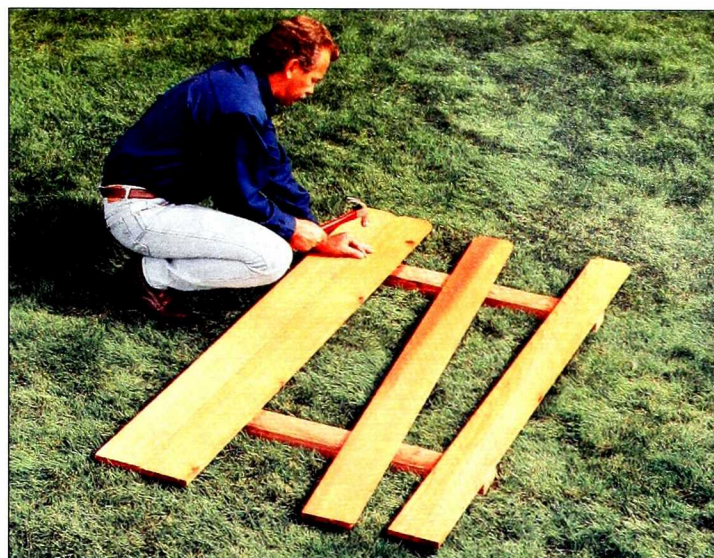

Figure 14: Assemble the gate on the ground, using only one nail at each end of the board so the gate stays flexible.
- The trick to building a gate is to initially tack it together on the ground, using only two nails for each board (Figure 14).